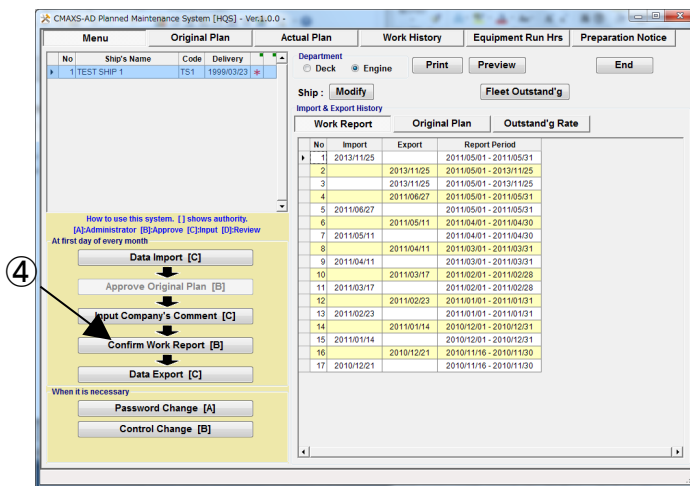

Fig.9-1 Menu Screen
- (1) On the "Menu Screen"(Fig.9-1), select [Confirm Work Report].